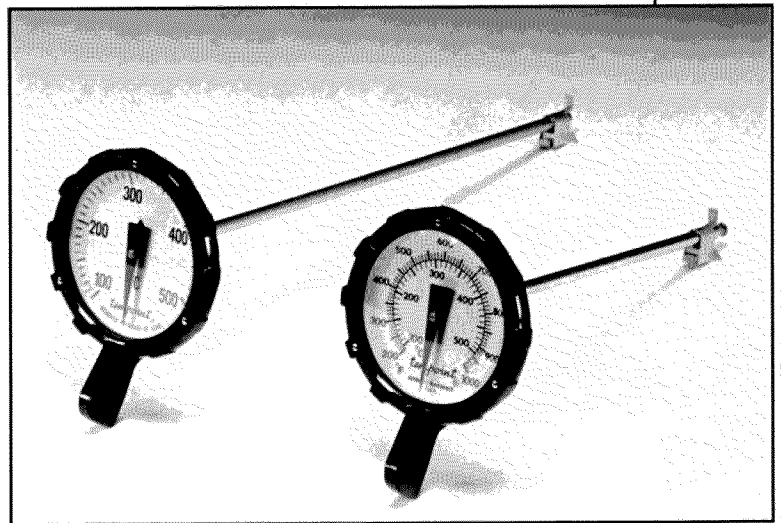
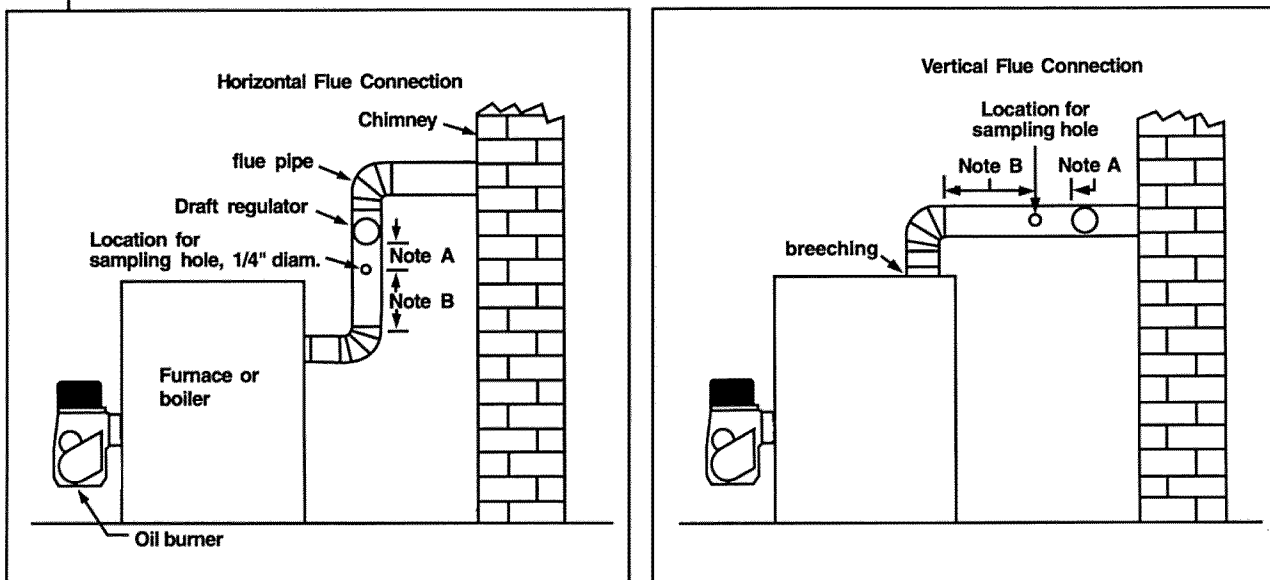

FIGURE 54 Flue gas thermometers
FIGURE 60 Desirable location for 1/4" flue pipe sampling hole for typical chimney connections
Flue gas temperature (often called stack temperature) is normally determined with a bi-metallic dial thermometer with a range of 200°F to 1000°F. (See Figure 54.) The bi-metallic element is a single helix, low mass coil fitted closely to the inside of a stainless steel stem. The stainless stem is 3/16 inches OD and can be easily inserted into a 1/4 inch hole in a flue pipe. The sampling hole should be at least two flue diameters above the breeching or elbow, at the breeching but ahead of the barometric damper. (See Figure 60.) Stem mounting sleeves are also available, which make it possible to hold the thermometer in pipe ducts with the stem inserted at the proper length.
- B. Prepare Heating Unit for Testing.** Drill a 1/4 inch hole in the flue between the appliance and the barometric draft regulator, if not already there, as shown in Figure 60. If space permits, the holes should be located in a straight section of the flue, at least two flue